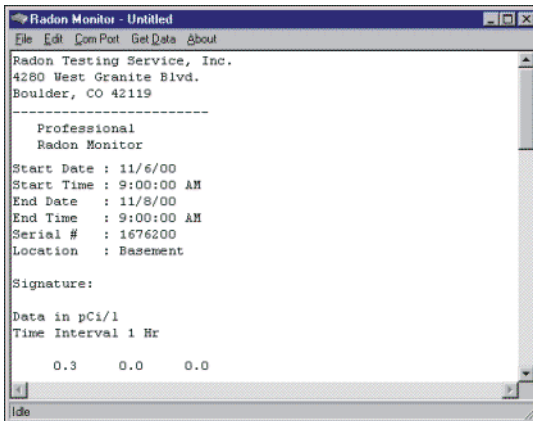

Figure 4-3. Report Displayed in Editing Screen
- 8 When data transfer is complete, report displays (Figure 4-3).